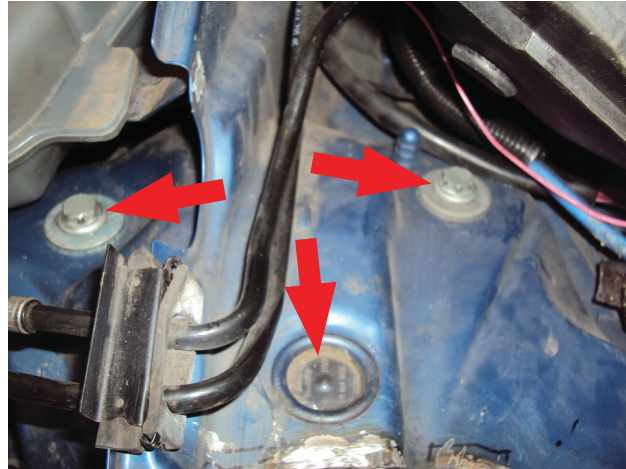

fig. 4
6. Unbolt the three bolts holding the stock upper bracket to the chassis. (Fig. 4)
6. Insert the new assembly and attach the upper bracket in place with the three bolts previously removed (Fig. 4). Make sure the shims are correctly seated to the chassis and not hung up on the upper bracket bosses.